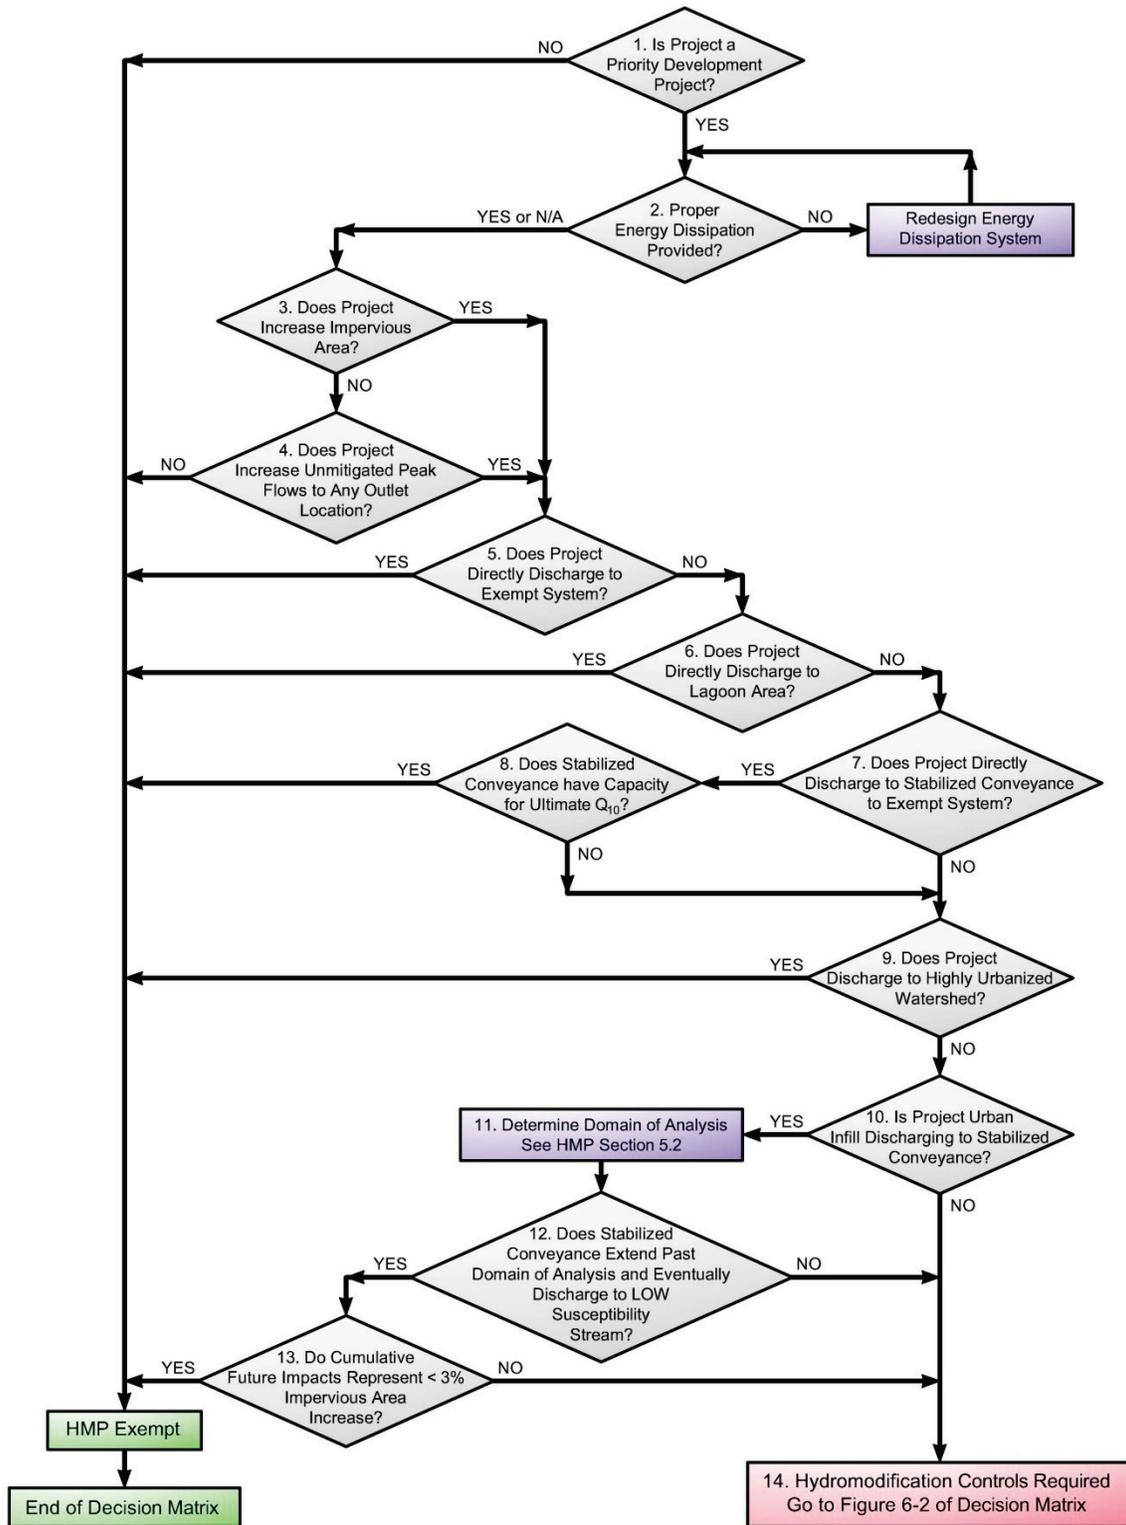

Figure 6-1. HMP Applicability Determination
To determine if a proposed project must implement hydromodification controls, refer to the HMP Decision Matrix in Figure 6-1 on the following page.
As noted in Figure 6-1, projects may be exempt from HMP criteria under the following conditions.
- Figure 6-1, Node 1 – Hydromodification mitigation measures are only required if the proposed project is a Priority Development Project.
- Figure 6-1, Node 2 – Properly designed energy dissipation systems are required for all project outfalls to unlined channels. Such systems should be designed in accordance with the County of San Diego’s Drainage Design Manual to ensure downstream channel protection from concentrated outfalls.
- Figure 6-1, Nodes 3 and 4 – Projects may be exempt from hydromodification criteria if the proposed project reduces the pre-project impervious area and if unmitigated post-project outflows (outflows without detention routing) to each outlet location are less as compared to the pre-project condition. The pre and post-project hydrologic analysis should be conducted for the 2 and 10-year design storms and follow single-event methodology set forth in the San Diego Hydrology Manual. This scenario may apply to redevelopment projects in particular.
- Figure 6-1, Node 5 – Potential exemptions may be granted for projects discharging runoff directly to an exempt receiving water, such as the Pacific Ocean, San Diego Bay, an exempt river system (detailed in Table 6-1), or an exempt reservoir system (detailed in Table 6-2).
- Figure 6-1, Node 6 – For projects discharging runoff directly to a tidally-influenced lagoon, potential exemptions may also be granted. Exemptions related to runoff discharging directly to tidally-influenced areas were drafted based upon precedent set in the Santa Clara HMP. Regarding the potential exemption, additional analysis would be required to assess the effects of the freshwater / saltwater balance and the resultant effects on lagoon-system biology. This assessment, which would be required by other permitting processes such as the Army Corps of Engineers, California Department of Fish and Game, etc., must be provided by a certified biologist or other specialist as approved by the governing municipality. Such discharges would include an energy dissipation system (riprap, etc.) designed to mitigate 100-year outlet velocities based upon a free outfall condition. Such a design would be protective of the channel bed and bank from an erosion standpoint.
- Figure 6-1, Nodes 7 and 8 – For projects discharging runoff directly to a hardened conveyance or rehabilitated stream system that extends to exempt receiving waters detailed in Node 5, potential exemptions from hydromodification criteria may be granted. Such hardened or rehabilitated systems could include existing storm drain systems, existing concrete channels, or stable engineered unlined channels. To qualify for this exemption, the existing hardened or rehabilitated conveyance system must continue uninterrupted to the exempt system. In other words, the hardened or rehabilitated conveyance system cannot discharge to an unlined, non-engineered channel segment prior to discharge to the exempt system. Additionally, the project proponent must demonstrate that the hardened or rehabilitated conveyance system has capacity to convey the 10-year ultimate condition flow through the conveyance system. The 10-year flow should be calculated based upon single-event hydrologic criteria as detailed in the San Diego County Hydrology Manual.
- Figure 6-1, Node 9 – As allowed per the Municipal Permit, projects discharging runoff to a highly urbanized watershed (defined as an existing, pre-project impervious percentage greater than 70 percent) may be eligible for an exemption from hydromodification criteria.
- Figure 6-1, Nodes 10 through 13 – For urban infill projects discharging runoff to an existing hardened or rehabilitated conveyance system, potential limited exemptions from hydromodification criteria may apply where the existing impervious area percentage in the watershed exceeds 40 percent. For the potential exemption application, the domain of analysis must be determined and the existing hardened or rehabilitated conveyance system must extend beyond the downstream terminus of the domain of analysis. The hardened or rehabilitated conveyance system must discharge to a receiving channel with a Low potential for channel susceptibility for this exemption to be granted (channel susceptibility determined using SCCWRP tool). Finally, continuous simulation sensitivity analysis shows that an exemption could only be granted if the potential future development impacts in the watershed would increase the watershed's impervious area percentage by less than 3 percent (as compared to the existing condition in the year 2010). If the potential future cumulative impacts in the watershed could increase the impervious area percentage by more than 3 percent (as compared to existing condition), then no exemption could be granted based on this item. Watershed impervious area calculations for this potential exemption, in which a project discharges to a watershed with an existing impervious areas greater than 40 percent, will be measured upstream from the outfall of the urban conveyance system (to a non-concrete, non-riprap-lined or non-engineered channel) to the contributing watershed boundary (the entire watershed contributing to the discharge outfall).